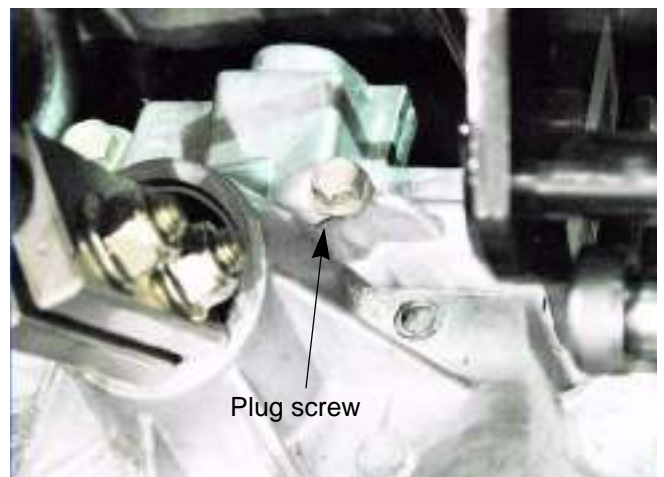

Figure 6B.1
- 2a. Remove the 1/4"-20 plug screw from the steering gear box centering port using a 3/8" wrench. See Figure 6B.1.